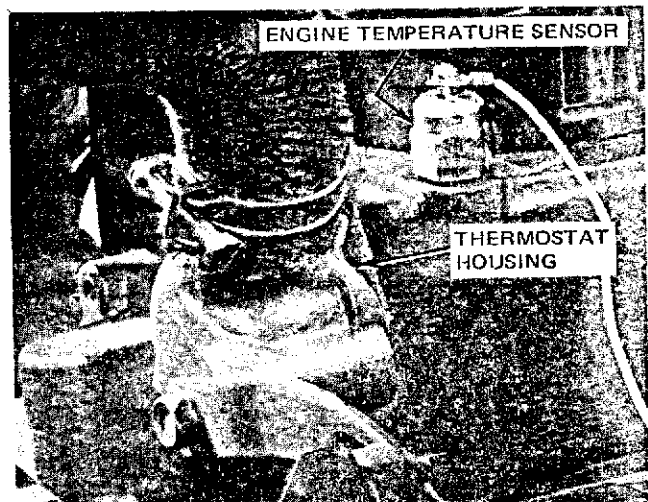

Figure 40 — Thermostat Housing
**Thermostat:** The thermostat is located in the coolant outlet connection in the front of the cylinder head Figure 40.